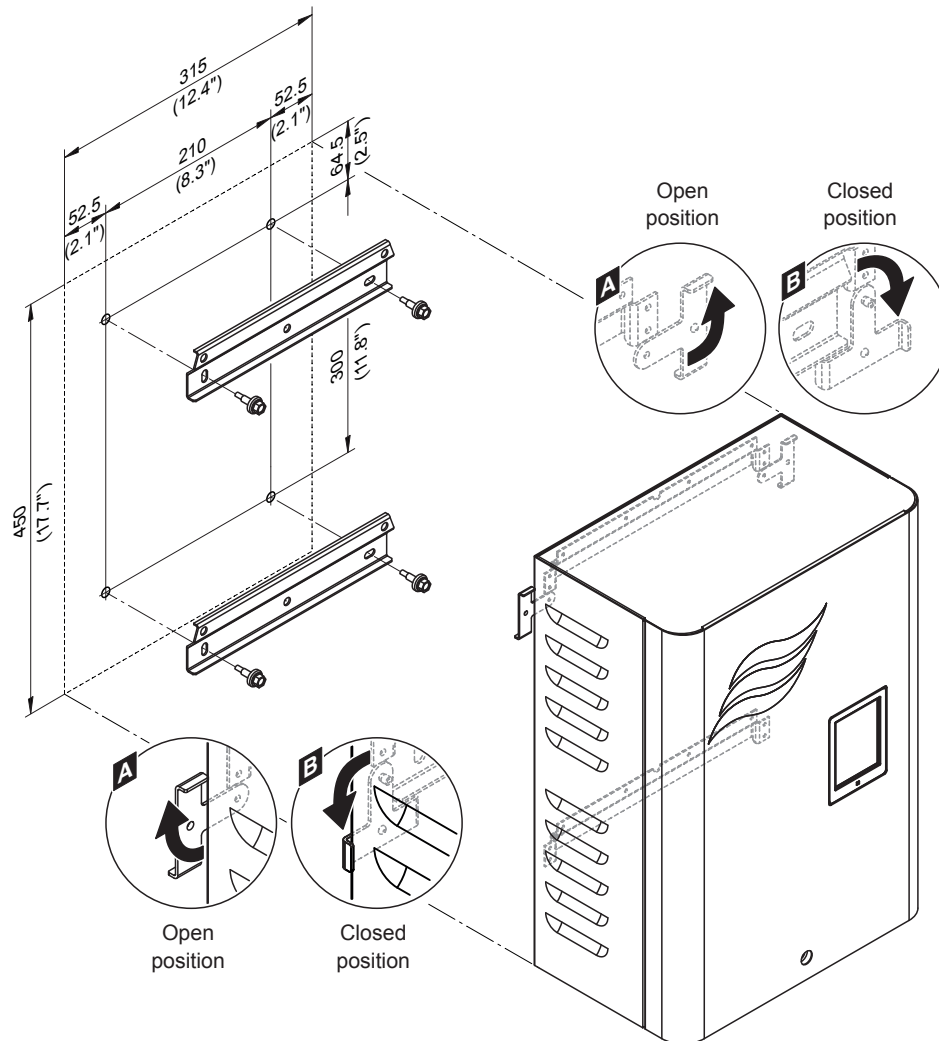

Fig. 33: Mounting the control unit of Condair ME Control
3. Move the locking hooks on the back of the control panel to open position (see detail "A" in Fig. 33).
5. Move the locking hooks on the back of the control panel to closed position (see detail "B" in Fig. 33) in order to fix the control unit to the upper wall support.